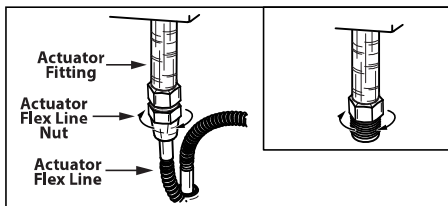

Figure 49 - Actuator Flex Line Removal
**2** Uninstall the actuator flex line from the actuator fitting by using a 9/16" wrench to hold the actuator fitting secure to the gas valve while using a second 9/16" wrench to loosen and remove the actuator flex line nut off from the actuator fitting. (See Figure 49).